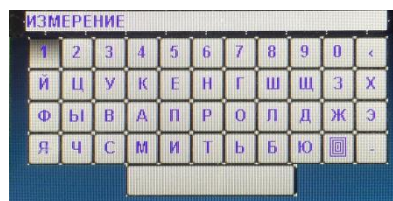

Figure 2.17 – The input of the measurement
6. To save the measurement value, press “”. Then, the name of measurement can be set with a virtual keyboard (fig. 2.17).